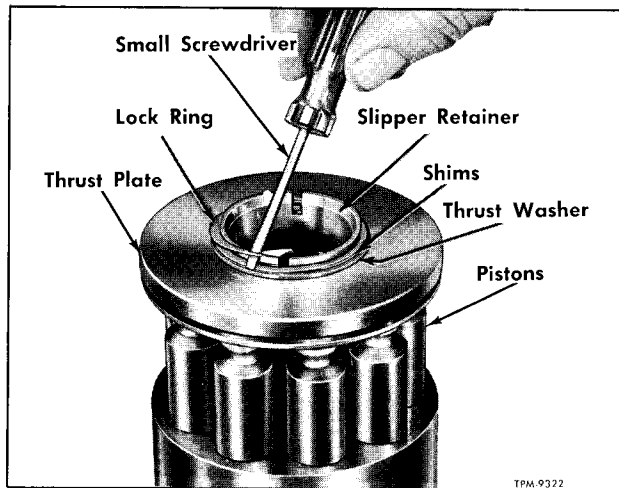
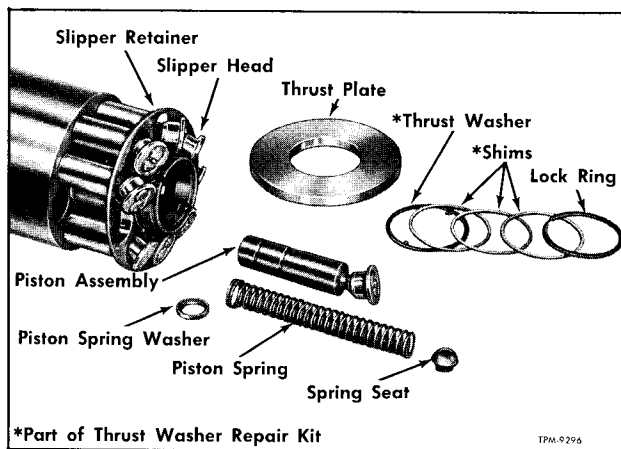

Figure 45—Removing Lock Ring From Pump Slipper Retainer
Figure 46—Pump Cylinder Block Disassembled
9. Using a small screwdriver or a knife blade, remove lock ring (8) from groove of slipper retainer (12) as shown in figure 45. Shims (9), thrust washer (10), thrust plate (11) and slipper retainer (12) may then be removed. See figure 46 which shows parts removed.
10. Lift pistons (14), piston spring seats (15), piston springs (16), and spring washers (17) from
6. Referring to figure 46, assemble thrust washer (10), shims (9), and spiraloc snap ring (8) over end of slipper retainer. **NOTE:** Thrust washer tangs must engage slots on slipper retainer (12).